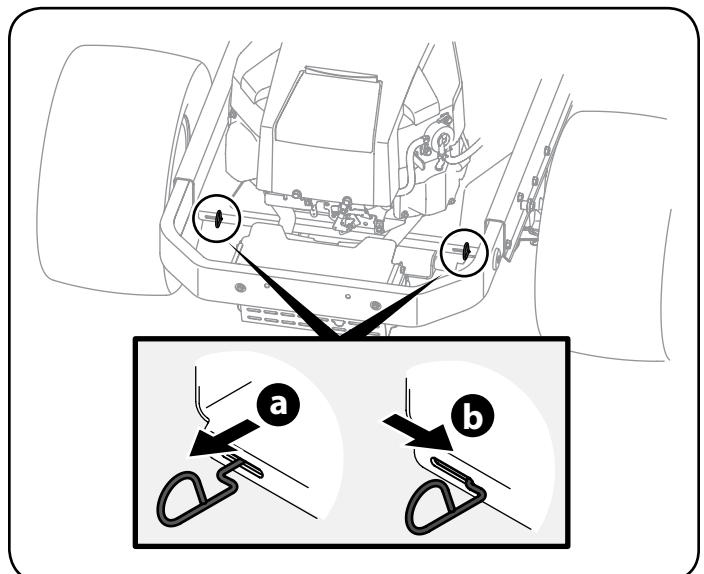

Figure 27
1. Locate the hydrostatic bypass rod in the rear of the riding mower. See Figure 27.
2. Engage the bypass rods by pulling each one out (a) and to the right (b) to lock it into place. See Figure 27.
3. Disengage the bypass rods by reversing steps a & b after moving the tractor. See Figure 27.